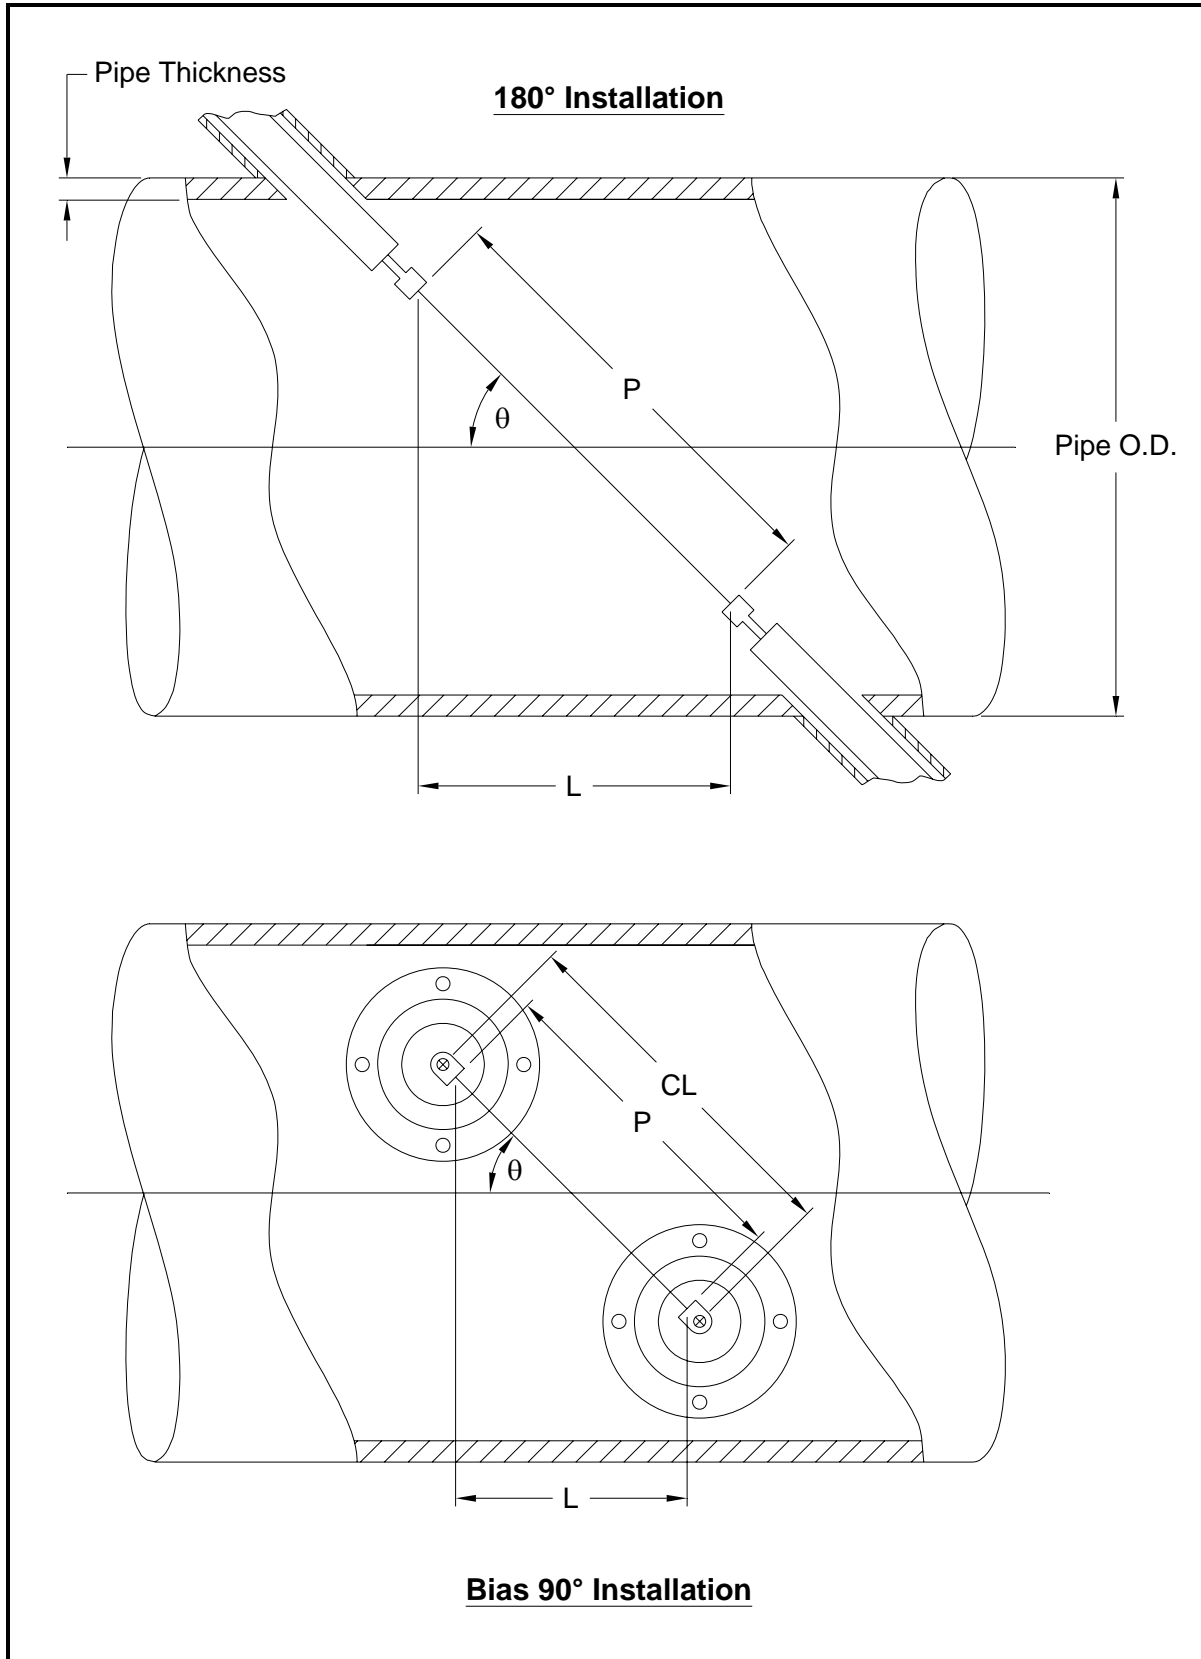

Figure D-4: Top View of Transducer Installations
The accuracy of the programmed P and L values is critical to precise flow rate measurements. If GE supplies the flowcell for the system, the correct values will be included in the documentation supplied with the unit. For transducers installed on an existing pipe (see Figure D-4 on page D-2), P and L must be measured at the site. This appendix provides instructions for properly determining these dimensions.
Whenever possible, physically measure the face-to-face distance (P) and the axial distance (L) between the centers of the flat faces of the transducers. Refer to Figure D-4 on page D-2 for an illustration of the proper distances to measure in a typical installation.
With a Bias 90° transducer installation, it sometimes happens that the only known parameters are the transducer angle (θ) and the centerline distance between the transducer bodies (CL). In these cases, it is still possible to calculate both P and L by combining Equation D-1 above with Equation D-2 below (see Figure D-4 on page D-2):